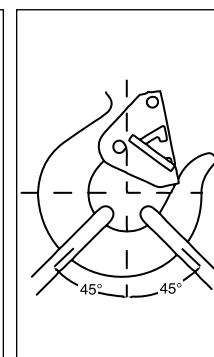

Figure 5
- When placing two (2) sling legs in hook, make sure the angle from the vertical to the outermost leg is not greater than 45 degrees, and the included angle between the legs does not exceed 90 degrees* (See Figure 5).
* For angles greater than 90 degrees, or more than two (2) legs, a master link or bolt type anchor shackle should be used to attach the legs of the sling to the hook.
The common thread among all these products is the method used to terminate the rope. **WIRELOCK®** (see Figure 5) is a resin compound offered by Crosby, that when properly used, creates a 100% efficient termination. Zinc is also used to terminate spelter type sockets with the same resultant efficiency.